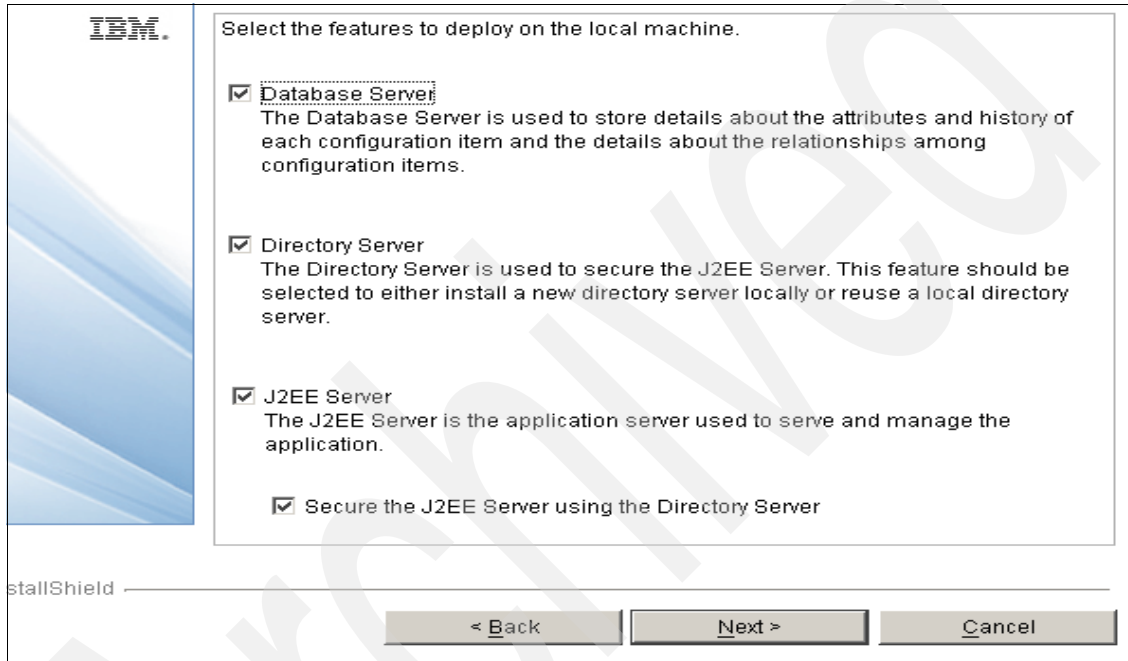

Figure 5-2 Middleware features selection
3. From the Deployment Choices panel, as shown in Figure 5-2 on page 69, select the features to deploy on this machine and then click **Next**. Your choices of features include the following: